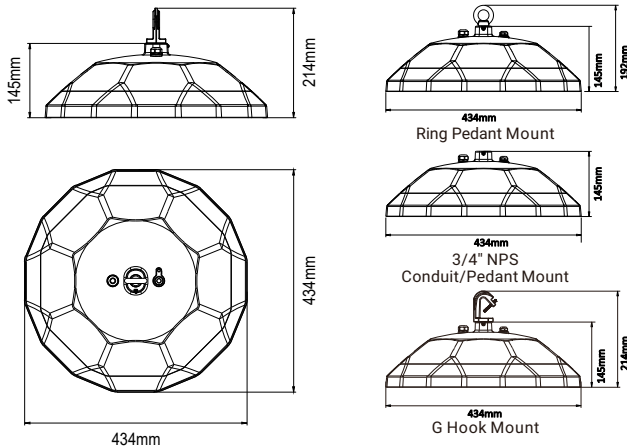

FIG 2 | WIRE PLACEMENT ON G-HOOK
- **Thermal Management and Installation:** Features an integrated heat sink for optimal thermal management and includes a 5-foot power cord, 1-foot dimming cord and 1-foot safety lanyard for installation flexibility. See Fig 2